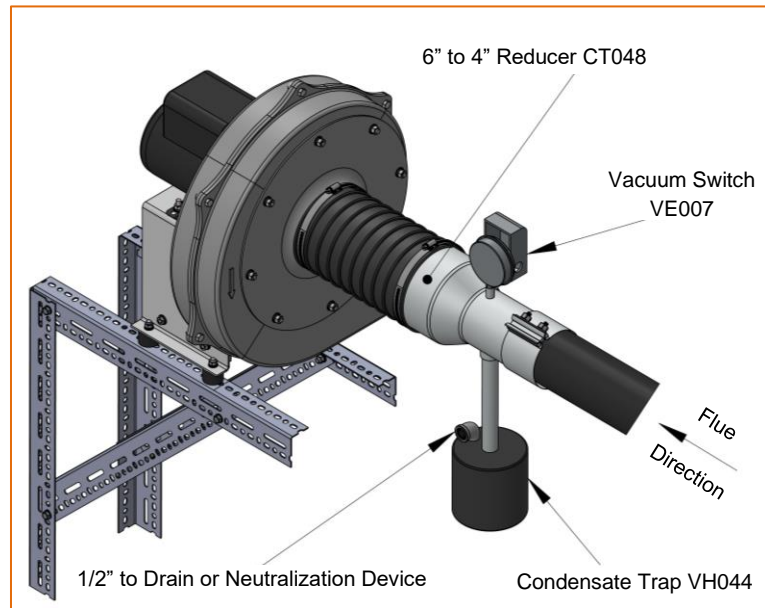

Figure 35: Condensate Drain Detail – Optional
4. Where condensing designs are specified, a Condensate Drain may be installed as shown in Figure 35. Ensure connection to Drain Pipe is flexible to allow for system movement/expansion during operation, and that an appropriate Neutralization Device is installed as required.